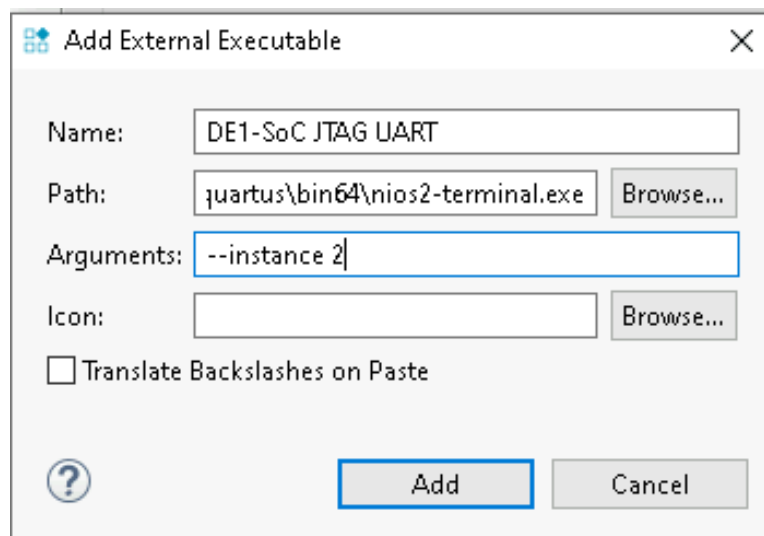

Figure 2.1: ARM DS IDE: Window Preferences Add External Executable
- Set the following items, and then click **Add**. (See Figure 2.1).